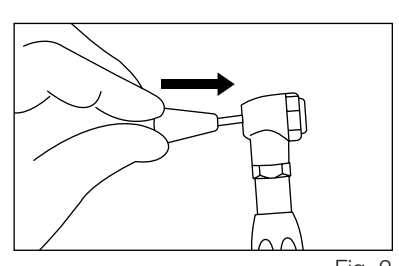

Fig. 2
- To mount prophy cup or brush for polishing, align shapes of the back end of file and the hole of the head shaft, and push file firmly. (Fig.2)